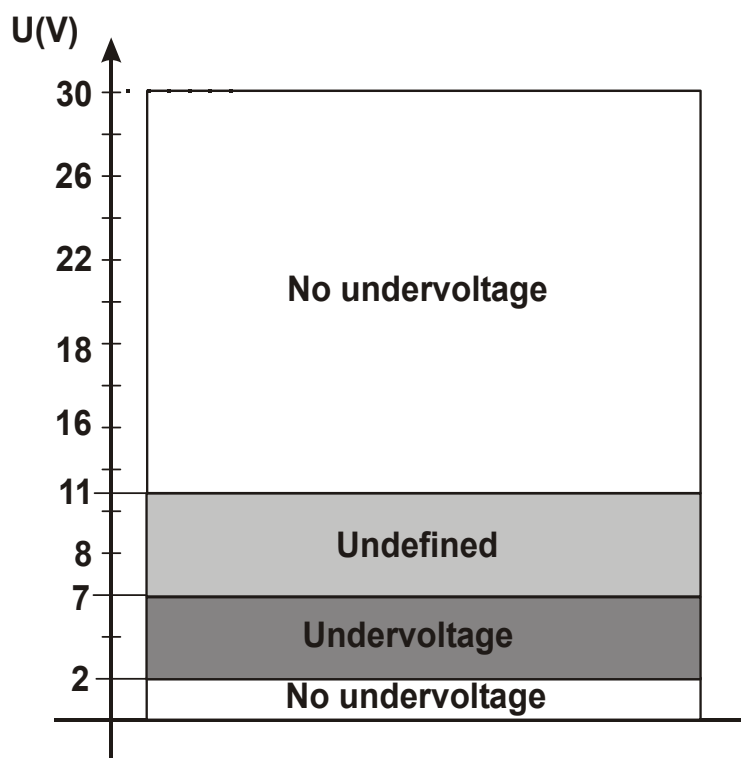

Fig. 28: Voltage levels of the undervoltage detection system
- Undervoltage of the power supply voltage; refer to Fig. 28